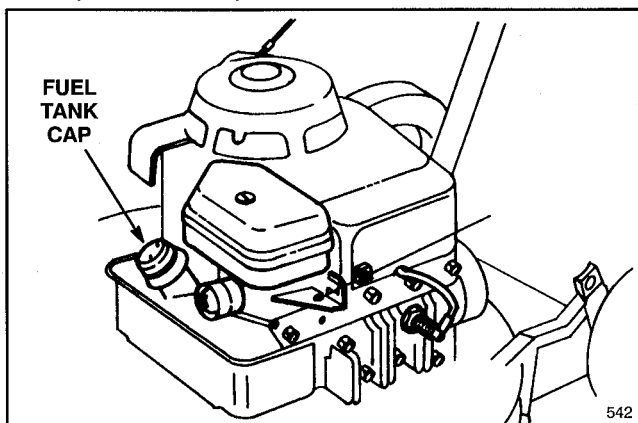

Figure 6
1. Clean around fuel tank cap and remove cap from tank (Fig. 6). Do not fill tank full. Using unleaded gasoline, fill fuel tank to within 1/4" to 1/2" (6 to 13 mm) from top of tank, not into the filler neck. This space is for expansion of fuel.